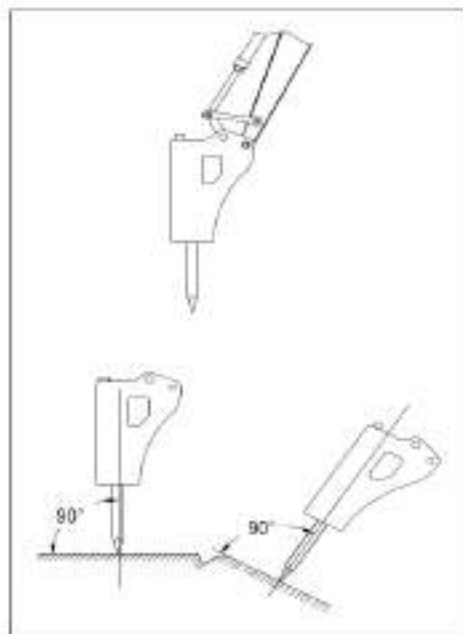

Figure 5-9 Precautions for use of hydraulic hammer (I)
a). During crushing operations, the chisel should be perpendicular to the impact surface (Figure 5-9).